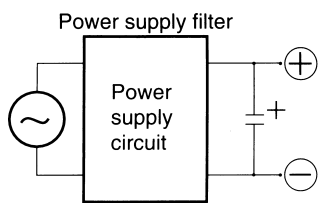
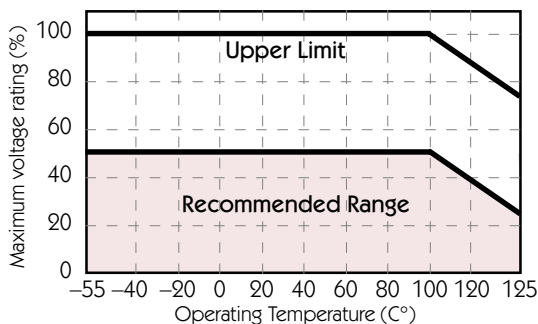

Fig. 1
Fig.3
(1) The voltage derating factor should be as great as possible. Under normal conditions, the operating voltage should be reduced to 50% or less of the rating. It is recommended that the operating voltage be 30% or less of the rating, particularly when the tantalum capacitors are used in a low-impedance circuit. (See Figs. 1, 2, and 3.)
(2) For circuits in which a switching, charging, discharging or other momentary current flows, it is recommended that the operating voltage be 30% or less of the rating, with a resistor connected in series to limit the current to 300 mA or less. (See section 4 for details.)
(3) When the tantalum capacitors are to be used at an ambient temperature higher than 85°C, the recommended operating range shown in Fig. 3 should not be exceeded.